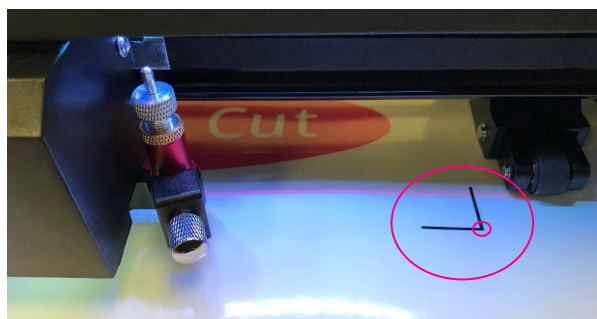

Fig. 3.2.6 Position the blade over the lower right corner of the lower right registration mark.
9. Load the printout into the MUSE in the same orientation as printed and set the blade tip over the lower right registration mark as was shown in FIG. 3.2.6 and 3.2.7 in Section 3.2.3.